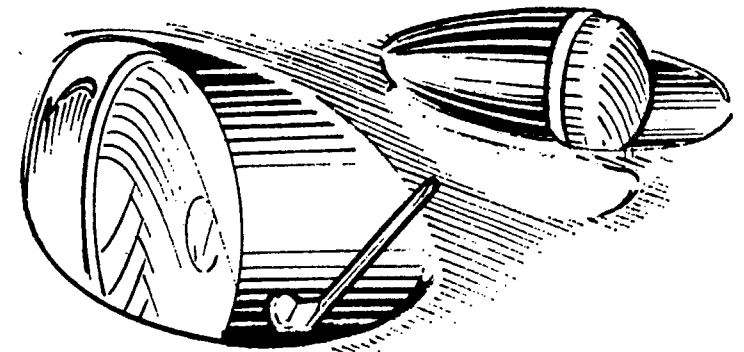

Fig. 21. Removing front bezel
1. Remove the front bezel by pulling from the bottom with a hooked tool. See Fig. 21.